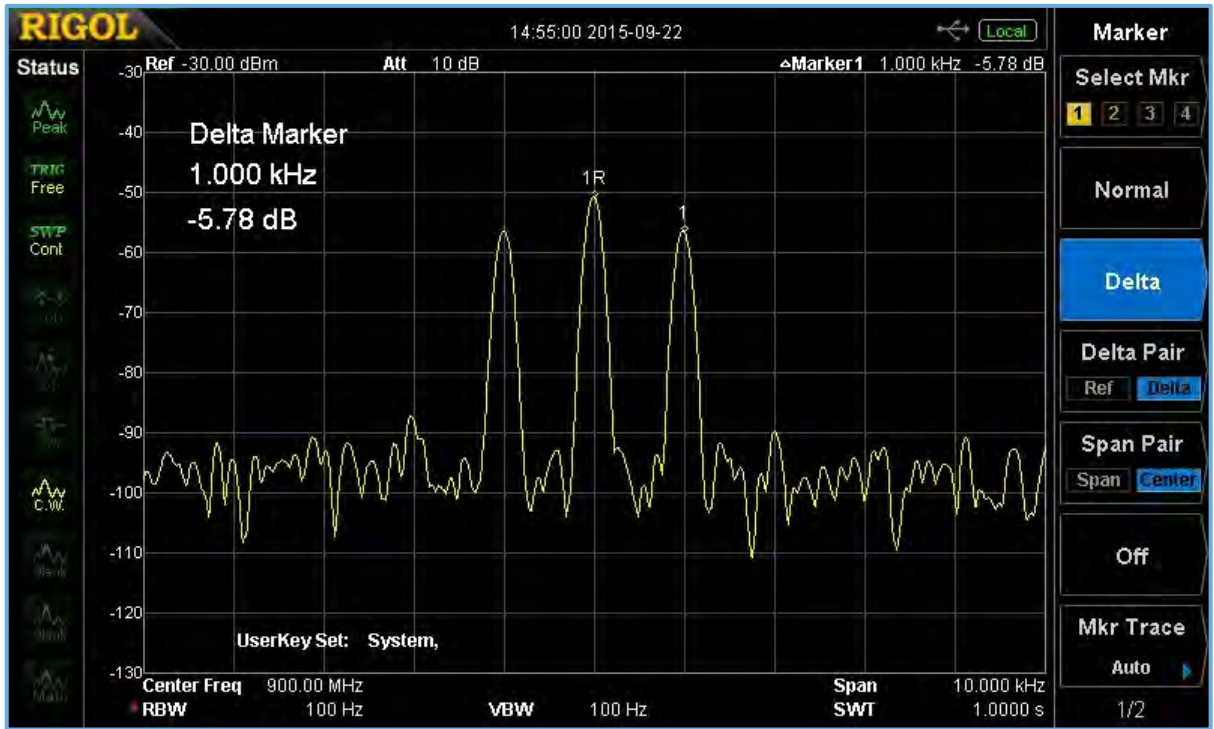

Figure 5-5: 10MHz carrier, 1kHz modulation AM signal on a spectrum analyzer.
3. Set the center frequency of the analyzer to the carrier frequency of the input signal. In the example in **Figure 5-5**, a 900MHz AM transmission is being monitored.
5. Set the resolution bandwidth (RBW) to a value less than the modulation frequency. In **Figure 5-5**, the RBW is set to 100Hz. If an RBW close to the modulation frequency is used, there might not be sufficient resolution to see the modulation.